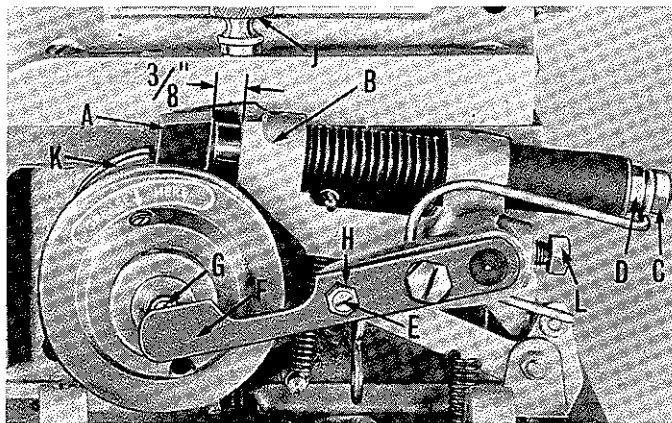
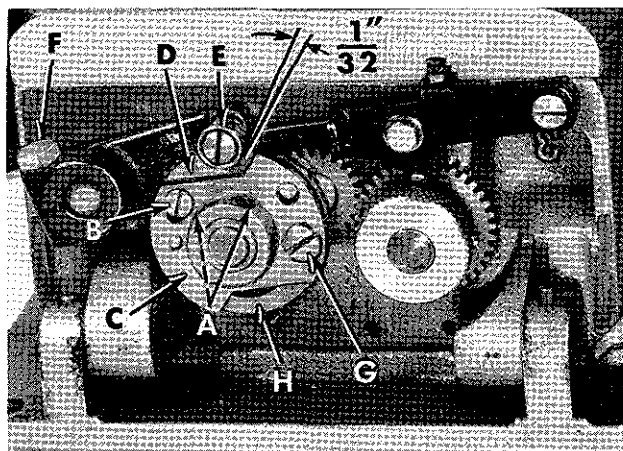
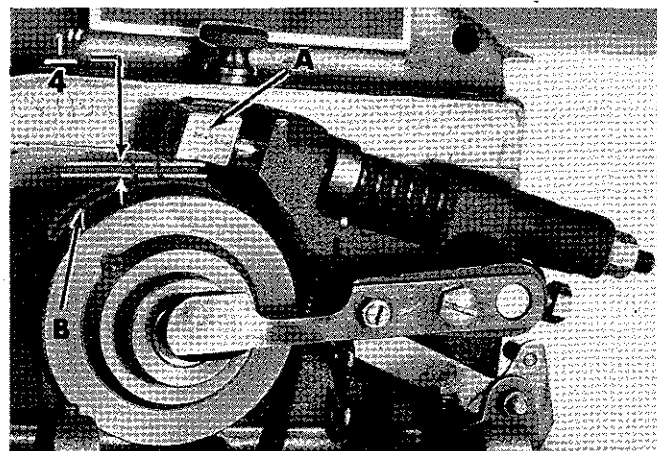
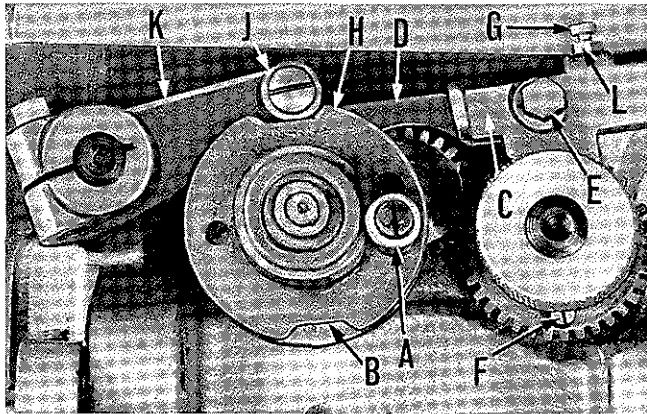

Fig. 1
Fig. 2A
Fig. 3A
Fig. 5
This position is that which is shown in Fig. 1 with the stop motion disc and pawl (K) against the plunger (A).
With the machine in stop position, the stop motion plunger (A, Fig. 1) should be set so that there is  $\frac{3}{8}$  inch clearance between the bottom of the plunger and the plunger lever bracket (B). Loosen the back lock nut (C), and adjust the front nut (D) to obtain this setting. Lock the back nut. Adjust screw (E) in cam lever (F) so that there is  $\frac{1}{32}$  inch clearance between ball (G) and the thin section of lever (F) when the pulley is pressed in towards machine. Lock screw with nut (H). Make sure that set screw (L) is securely tightened.
With the machine in stop position, loosen the two socket head set screws. (A, Fig. 2A) and screw (B). Rotate "left cam" (C) counterclockwise to the top of its elongated slot (as viewed in Fig. 2A) and tighten screw (B). Rotate cam (C) and "right cam" (D) as required to obtain 1/32 inch clearance between roller (E) and the front of slot in cam (D); tighten set screws (A).
Depress the treadle to take machine out of stop position, then rotate pulley two complete revolutions in operating direction. Release treadle and measure the distance between plunger (A, Fig. 3A) and the highest point on disc (B). The distance should be 1/4 inch. Adjustment can be made by loosening clamp screw (F, Fig. 2A) in the stop motion trip lever and moving lever up or down to attain specified clearance. Should it become necessary to move the lever down, depress the treadle while making adjustment. Retighten clamp screw (F).
- Step 1. With the machine in stop position, loosen screws (A, Fig. 2A) and screw (B). Advance "left cam" (C) by rotating it clockwise, SLIGHTLY, relative to the "right cam" (D). Retighten screws (A and B) after referring to NOTE 1 above.
- Step 3. Should disc and pawl (K, Fig. 1) stop short of plunger (A), (this can be checked by rotating disc towards the operator and if the plunger does not catch the disc and pawl, the machine has not reached its stopped position), denoting cam is advanced beyond proper setting. To correct: retard "left cam" (C, Fig. 2A) by rotating it counterclockwise, SLIGHTLY, relative to the "right cam" (D). Refer to NOTE 1 above, before securing screws (A and B).
**NOTE: 2.** With reference to (A, Fig. 5) under "STITCH SETTINGS", the stitch adjusting knob has been replaced by screw (G, Fig. 2A) which secures cam shoe (H) using the upper or lower hole in "left cam" (C), as applicable.
Depress treadle to take machine out of stop position, and rotate pulley two complete revolutions in operating direction. Loosen knurled screw (J, Fig. 1) and lay machine on its side.
Figure 5 shows the machine in stop position, and set for 12 or 16 stitches. The stitch adjusting knob (A) is at its low position at the bottom of the slot and the gap (B) is closed. To change to 6 or 8 stitches, simply pull out on the stitch adjusting knob (A) and raise it to the top of the slot. At this point, the gap (B) will be open.
When changing from 6 or 8 to 12 or 16 stitches, the machine must be in stop position with the stitch adjusting knob (A, Fig. 5) towards the front. Pull out on the stitch adjusting knob (A) and move it to the bottom of its slot as shown in Fig. 5. Gap (B) will now be closed.
When changing from 6 or 8, or 12 or 16, to 24 or 32 stitches, the machine must be in stop position with stitch adjusting knob (A, Fig. 5) to the front. If the machine is in the 6 or 8 stitch position, pull out on the stitch adjusting knob (A) and move it to the bottom of its slot. Check position of screw (F). It should be at the bottom as shown in Fig. 5. If it is not, the machine will have to be re-cycled once to bring screw (F) into proper position.